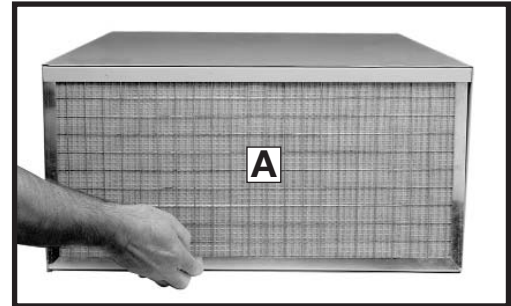
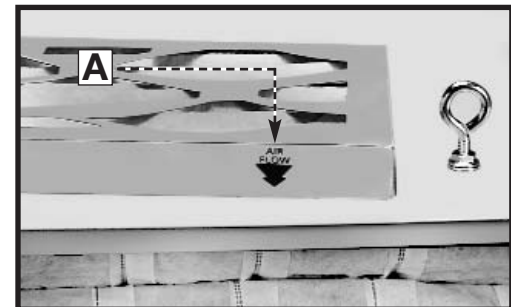

Fig. 9B
Fig. 9D
- Remove the outer first stage filter (A) Fig. 9B by lifting and pulling out on the bottom of the filter. Clean or replace the first stage filter depending on its condition. Clean this filter in one of two ways: Use a shop vac to remove the dust, or use compressed air (30 psi maximum) to blow the dust out of the filter. If you replace the outer filter, check to see if the filter has an air flow arrow (A) Fig 9D. If so, point the arrow inward. If the filter does not have an air flow arrow, install the filter either way.